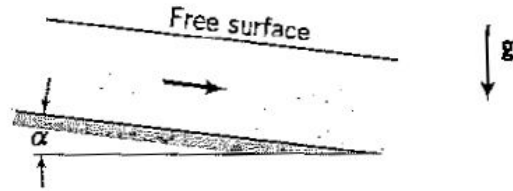

Figure P8.30:
8.30 Water at 60°F flows at a rate of $300\text{ ft}^3/\text{s}$ through a rectangular open channel that slopes down at an angle α , as shown in Figure P8.30. The depth of the water is 5 ft , and the width of the channel is 8 ft . The channel is made of concrete which has a friction factor